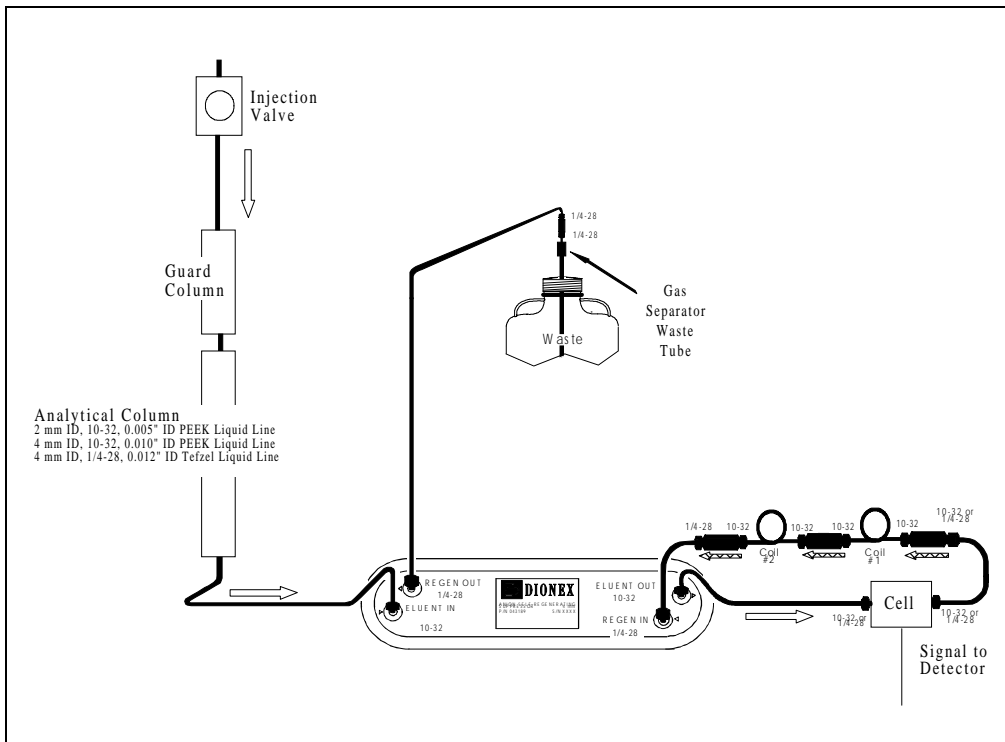

Figure B-2. AutoSuppression Recycle Mode
- AutoSuppression™ Recycle mode (SRS required), shown in Figure B-2.